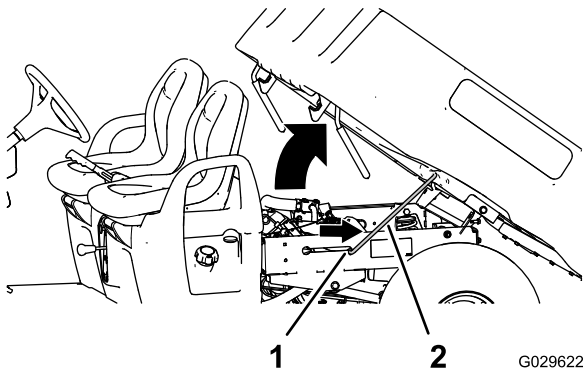

Figure 12
2. Pull the prop rod into the detent slot, securing the box (Figure 12).
2. Pull the prop rod out of the detent slot (Figure 12).